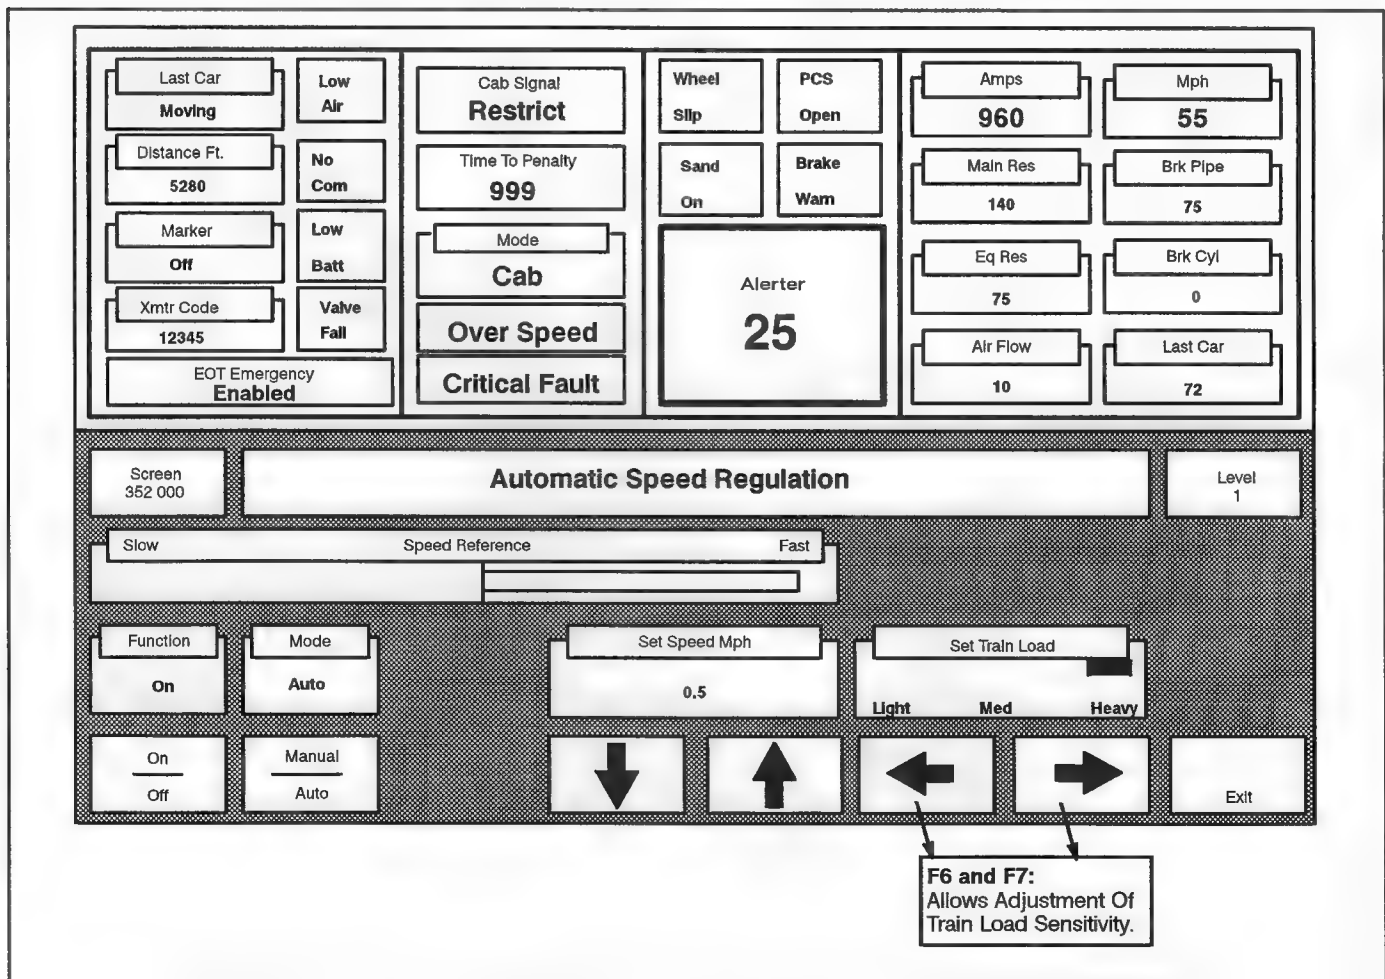

FIG. 45. POWER REDUCTION, AUTOMATIC MODE, SCREEN (352 000). E-40982.
2. Pressing key position F2 (**Manual/Auto**) brings-up screen 352 000 (Automatic Speed Regulation – see Fig. 45). The only difference between Automatic and Manual screens are key positions F6 and F7 (**Set Train Load** in Automatic, screen 352 000, mode). Mode status is indicated above the key position.